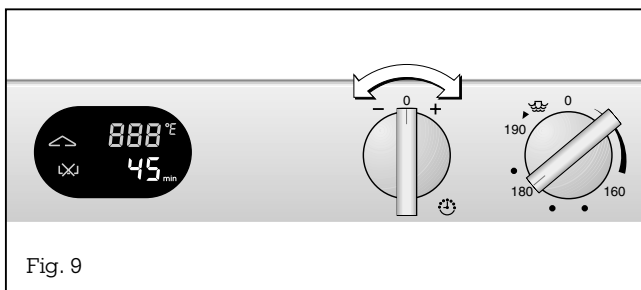

Fig. 9
Turn the “Short time” knob to the left or the right to set the short time you require (Fig. 9). The range that can be set is between 1 minute (01) and 90 minutes (90). The set time elapses on the display. If you turn the knob fully to the left, 90 appears in the display. After a few seconds, the chosen value is confirmed by an audible signal.